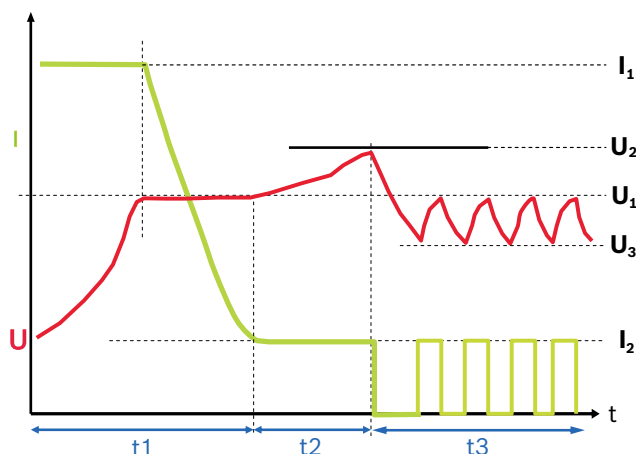

Fig. 4: Charging characteristic
- 1 Charging progress (see charging characteristic fig. 4)